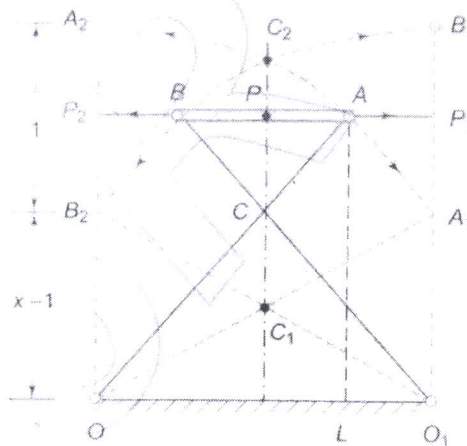

Figure: 1
- b) A T.Chebicheff mechanism is shown in the Figure: 1 below. Show that, the ratio of the link lengths $AB : OO_1 : OA :: 1 : 2 : 2.5$ for the point P to move in an approximate straight line path.